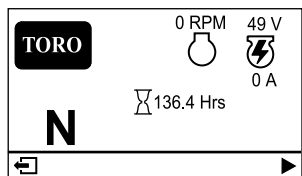

Figure 26
- **Main information screen (Figure 26):** shows current machine information while the key is in the ON position.